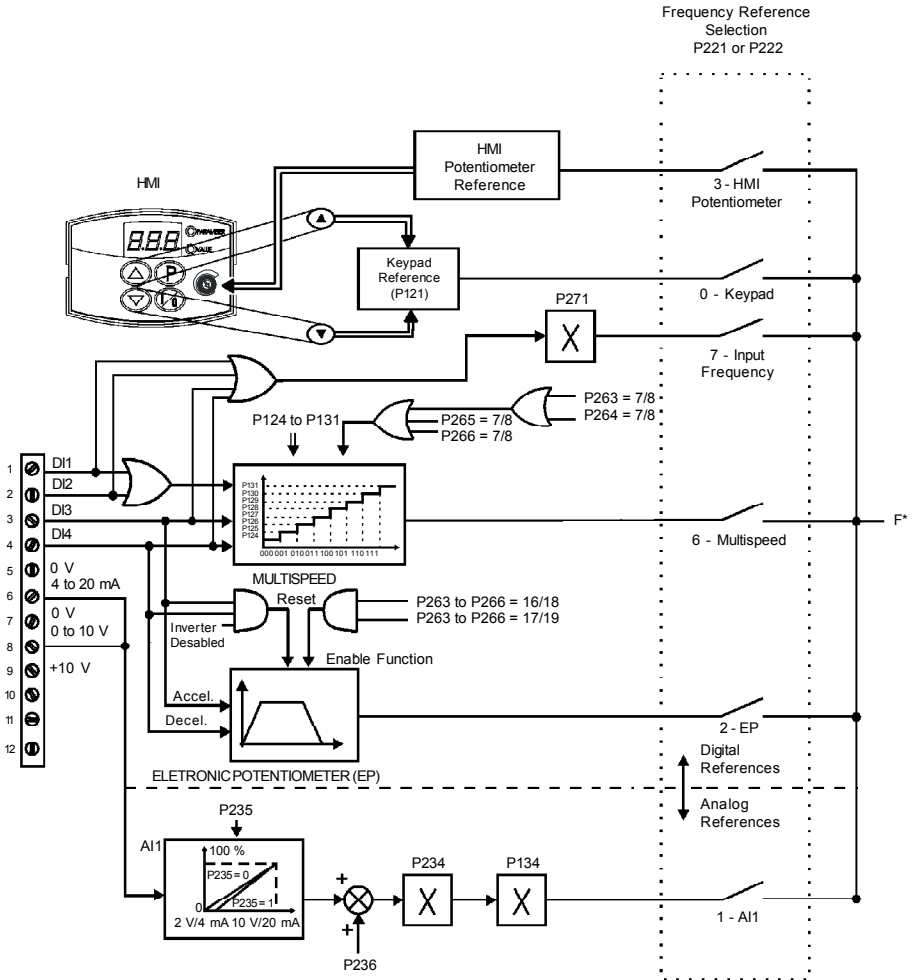

Figure 6.1 - Block diagram of the frequency reference
Figure 6.1 shows through a diagram block the frequency reference definition to be used by the inverter.
- In V/F control mode (P202 = 0 or 1),  $F_e = F^*$  (see Fig. 6.1) if P138 = 0 (slip compensation disabled). If P138  $\neq$  0, see figure 6.9 for the relation between  $F_e$  and  $F^*$ .